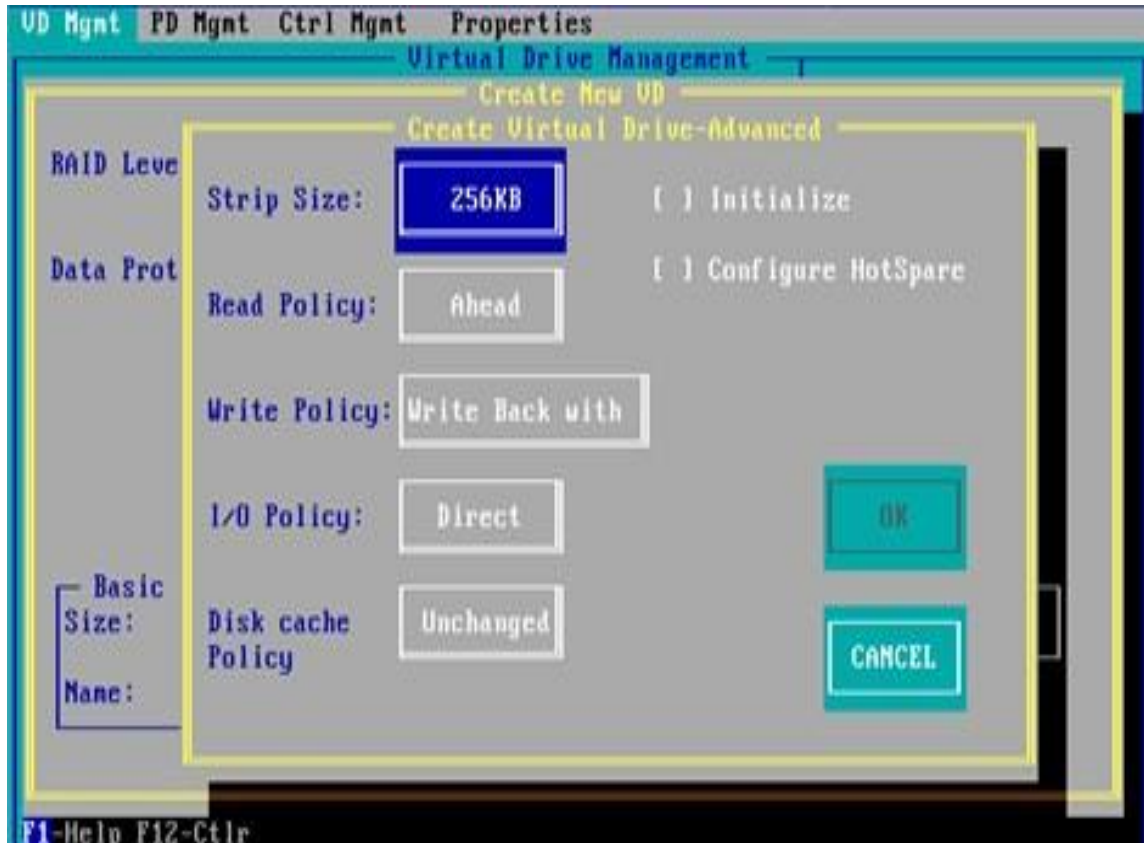

Figure 6-89
- g) Enter the interface shown in figure 6-89, set relevant parameters, then select OK and press enter.